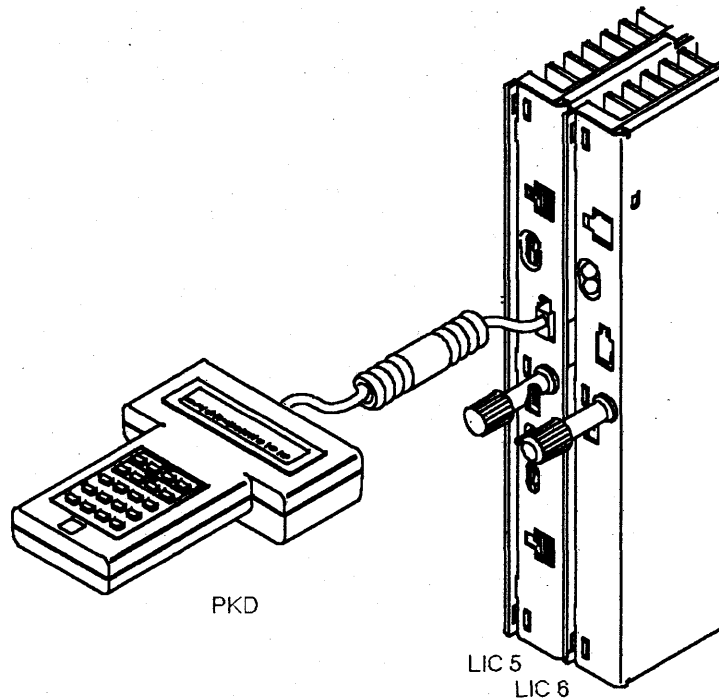

Figure 9-4. IBM 5869 Portable Keypad Display (PKD) plugged to a LIC5 or a LIC6.
- To check the lights, plug the PKD in (refer to Figure 9-4 on page 9-47 for connection); press the **Go** or **Stop** key; then the green and yellow lights should be on.